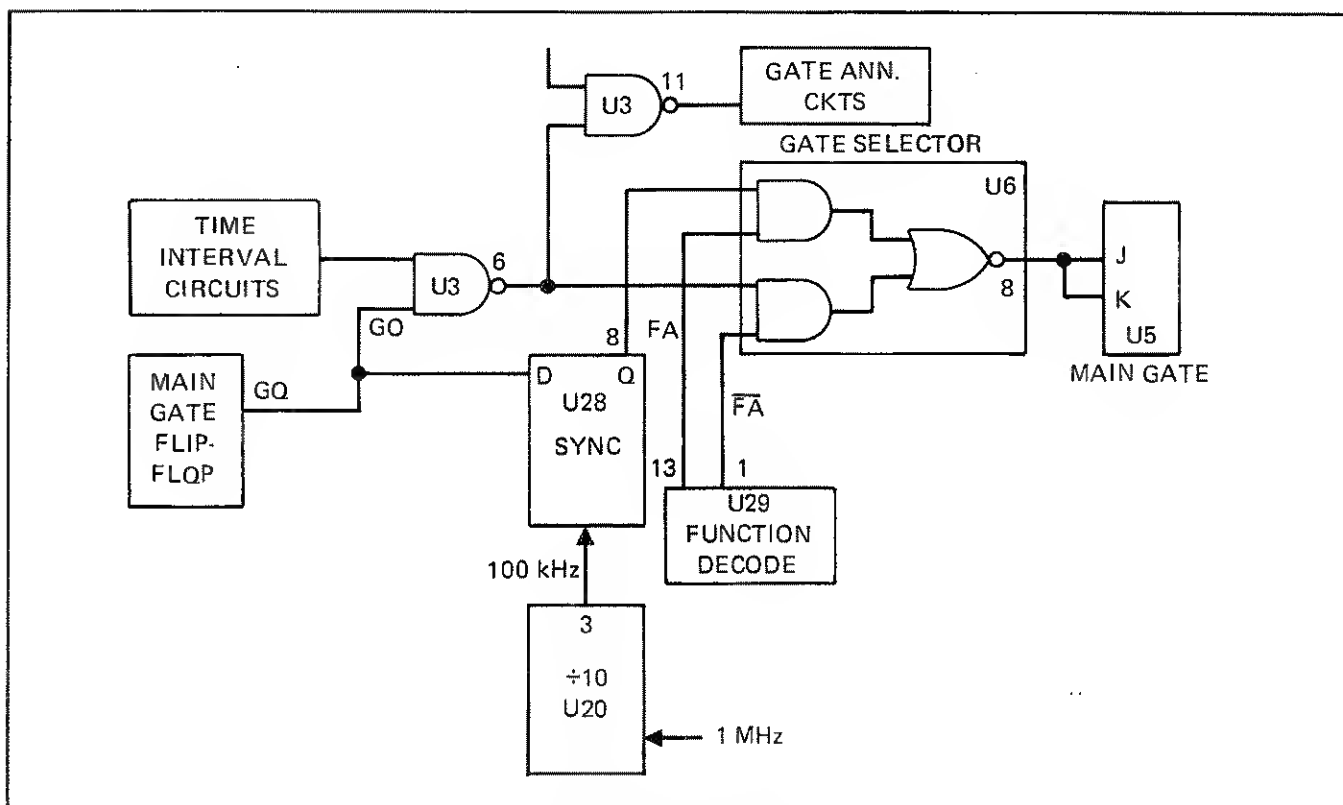

Figure 3-11. Main Gate Enable Logic
3-49. The J and K inputs to the Main Gate are function dependent. Referring to Figure 3-11, one of three signal paths may be applied to Gate Selector U6-8. When FREQ A mode is selected, the GQ output from the Main Gate Flip-Flop U5-5 is routed through the Gate Synchronizer U28-8. The synchronizer is clocked by a 100 kHz signal derived from the instrument's time base by decade divider U20-3. Function decoder U29-13 (FA) enables the Gate